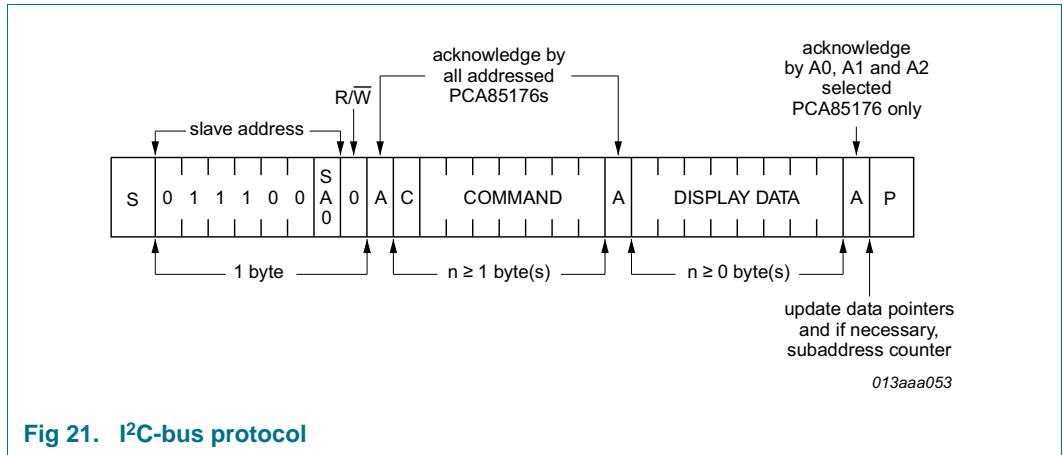

Fig 21. I²C-bus protocol
The I²C-bus protocol is shown in Figure 21. The sequence is initiated with a START condition (S) from the I²C-bus master which is followed by one of the two possible PCA85176 slave addresses available. All PCA85176 whose SA0 inputs correspond to bit 0 of the slave address respond by asserting an acknowledge in parallel. This I²C-bus transfer is ignored by all PCA85176 whose SA0 inputs are set to the alternative level.